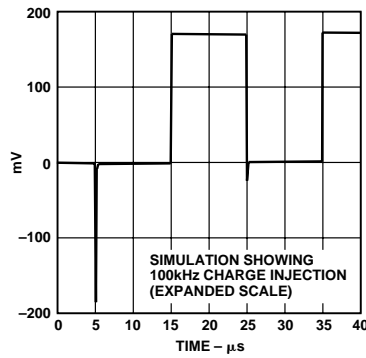

Figure 11. Output of simulation to show the effect of charge injection switching at 100 kHz.
**A.** The most efficient way to evaluate a switch’s charge injection performance is to use a setup similar to the one shown below. By turning the switch on and off at a relatively high frequency (> 10 kHz) and observing the switch output on an oscilloscope (using a high impedance probe), a trace similar to that shown in Figure 11 will be observed. The amount of charge injected into the load is given by  $\Delta V_{OUT} \times C_L$ . Where  $\Delta V_{OUT}$  is the output pulse amplitude.